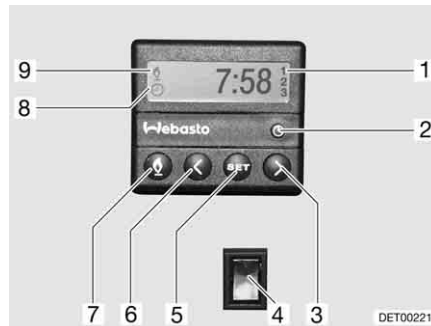

Fig. 154 Operating unit for independent vehicle heater
- Press the button (Fig. 154,7). The heating mode is displayed by the symbol (Fig. 154,9). The fan will only be switched on when there is a coolant temperature of 30 °C.
- Press the button (Fig. 154,7). The symbol (Fig. 154,9) goes off.
- Press the lower part of the switch (Fig. 154,4). Engine is preheated. The fan is switched on immediately.
- Press the upper part of the switch (Fig. 154,4). Engine stays cold.
- Press the button (Fig. 154,2). The time setting is displayed by the symbol (Fig. 154,8).
- Set the time with the buttons (Fig. 154,3 and 6).
- Press the button (Fig. 154,5).
- Set the switching on time within ten seconds, with the buttons (Fig. 154,3 and 6).
- Keep pressing the button (Fig. 154,5) until the selected programme number (Fig. 154,1) appears in the display.